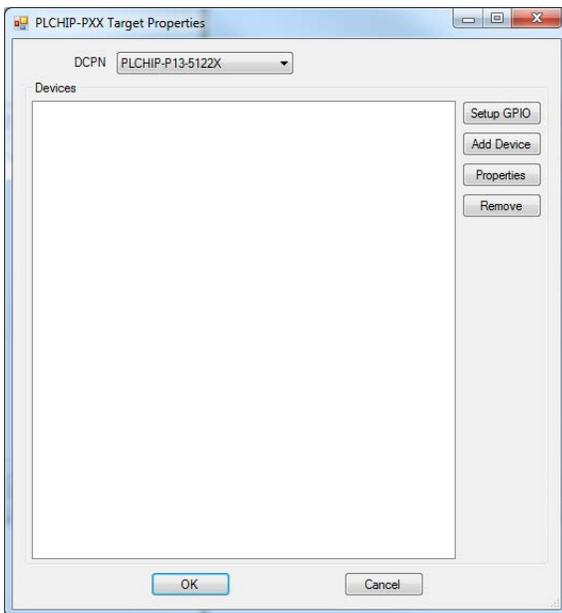

Figure 29-1
2. Several devices are required for installing the GPS on a PLC on a Chip (IC or module) target. The GPS requires the installation in Project Setting software for options: GPS (installs under Device) and UART (installs under Bus). If these devices were already installed, they would be listed. See Figure 29-1.